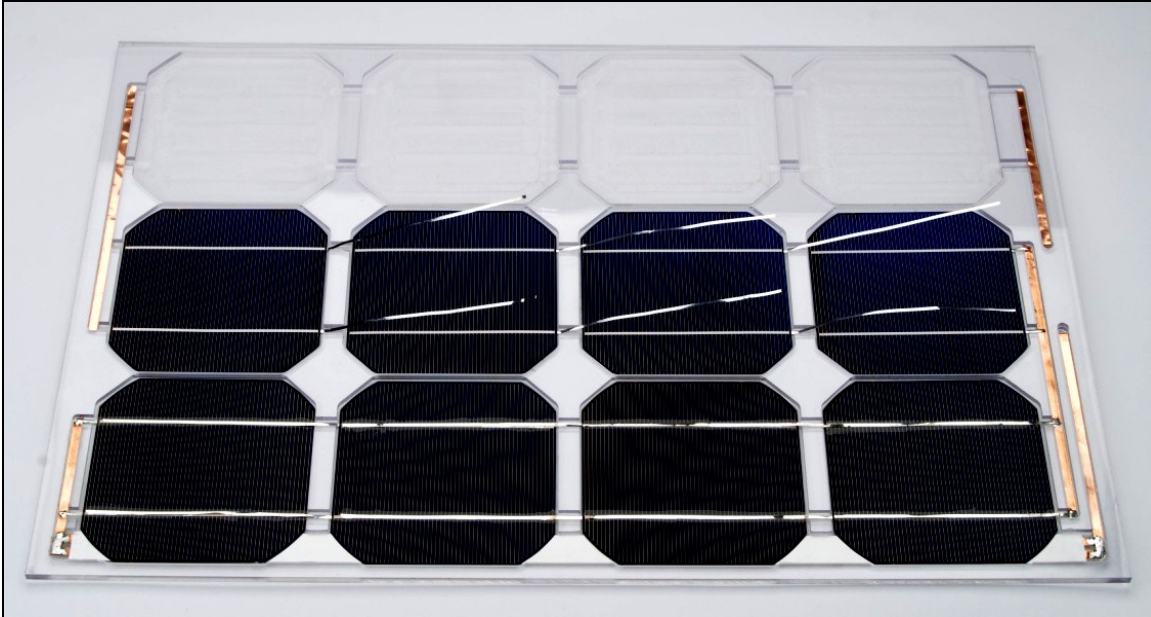

Figure 29
- ✓ Begin the second row of cells by hot-gluing long tabbed cells into cavities 8, 7, and 6. Note that the tabbing wires are pointing toward and overlapping the cells to their right, as shown in Figure 29.
- ✓ Next, install a short tabbed cell into cavity #5. All of the tabbing wires should be pointing to the right, and the short tabbed cell in cavity #5 should have its wires overlap the bus-bar in groove "E". See Figure 29.